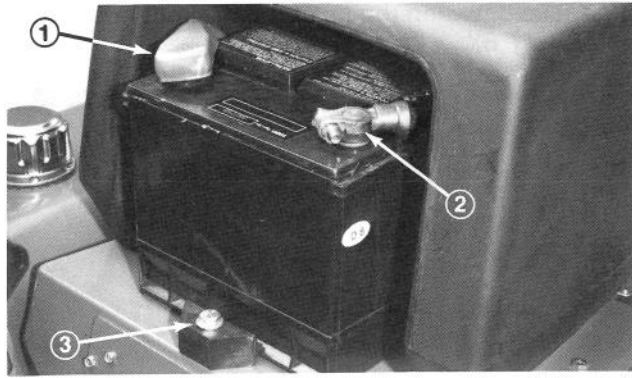

Figure 3
1. Mount battery with battery terminals toward the front of Greensmaster 3000-D (Fig. 3).